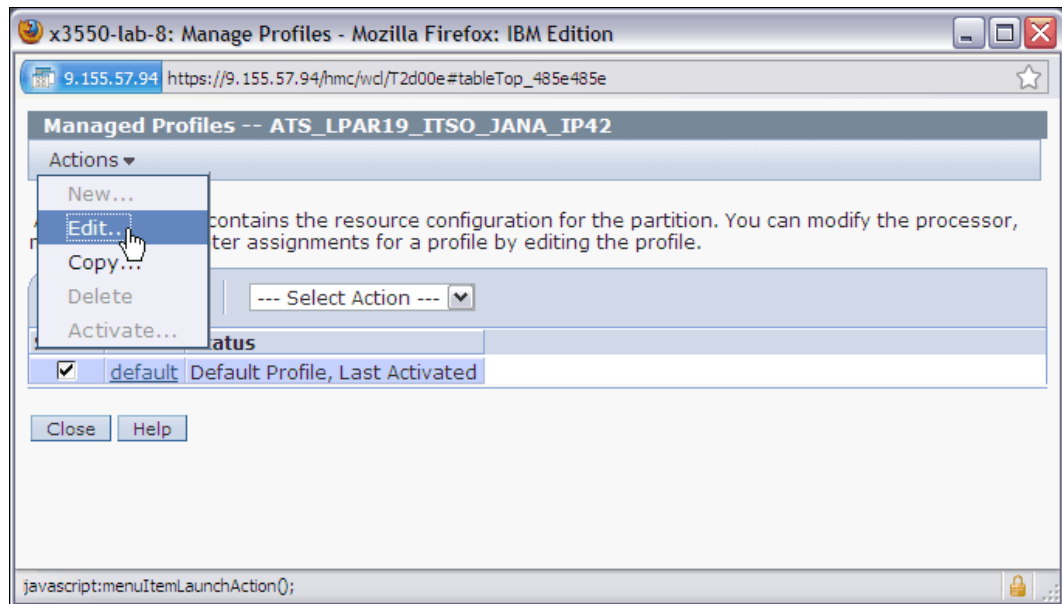

Figure 11-28 HMC: Edit profile
2. In the Manage Profiles window, select the IBM i LPAR, expand the Actions menu and select **Edit**, as shown in Figure 11-28.